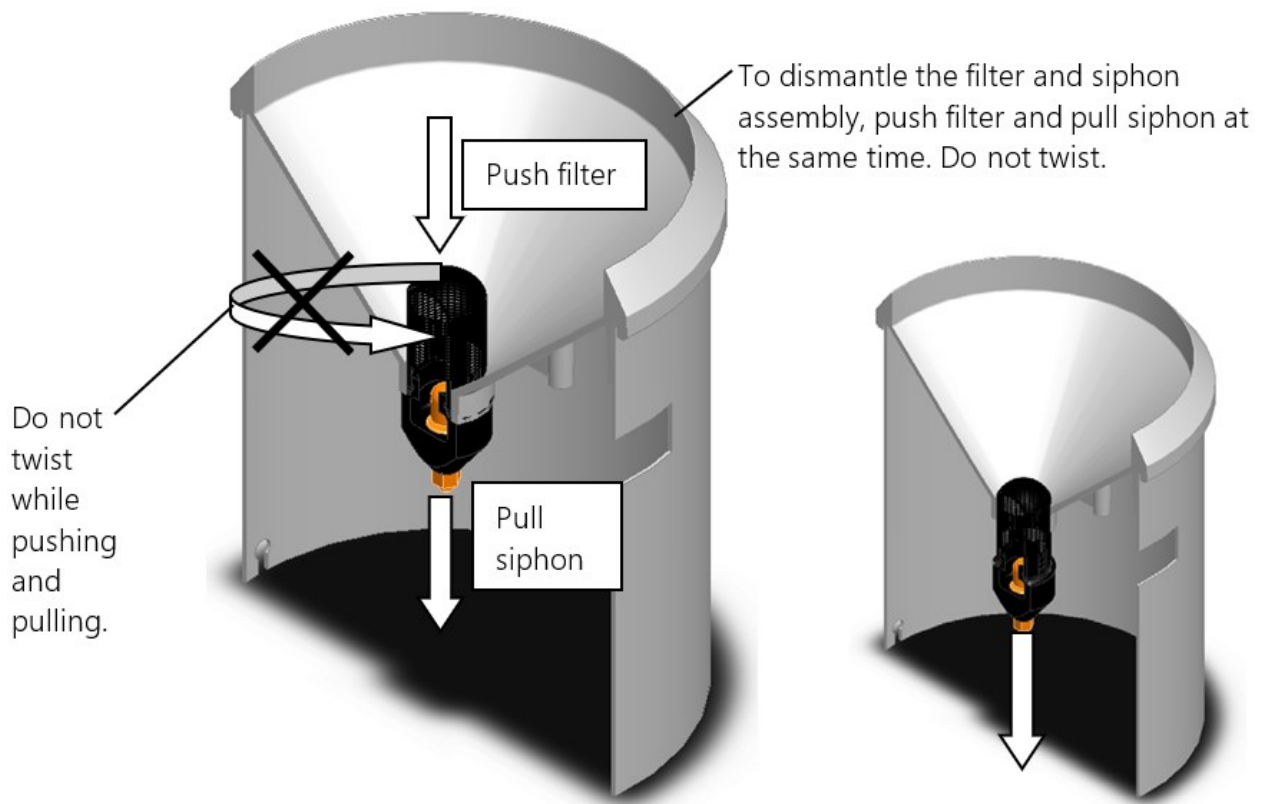

Figure 9-3. Dismantling the filter/siphon assembly
2. Separate the filter/siphon assembly from the funnel by pushing the filter while pulling the siphon (Figure 9-3 [p. 24]).